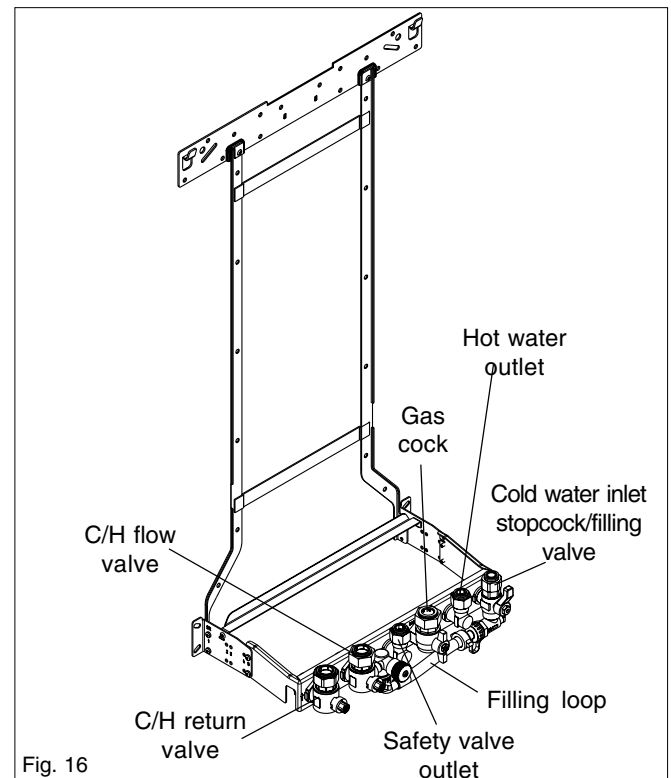

Fig. 16
4.6.1 GAS (fig. 16)
4.6.2 FLOW & RETURN (fig. 16)
4.6.3 COLD WATER INLET (Fig. 16)
4.6.4 HOT WATER OUTLET (Fig. 16)
4.6.5 SAFETY VALVE (fig. 16)